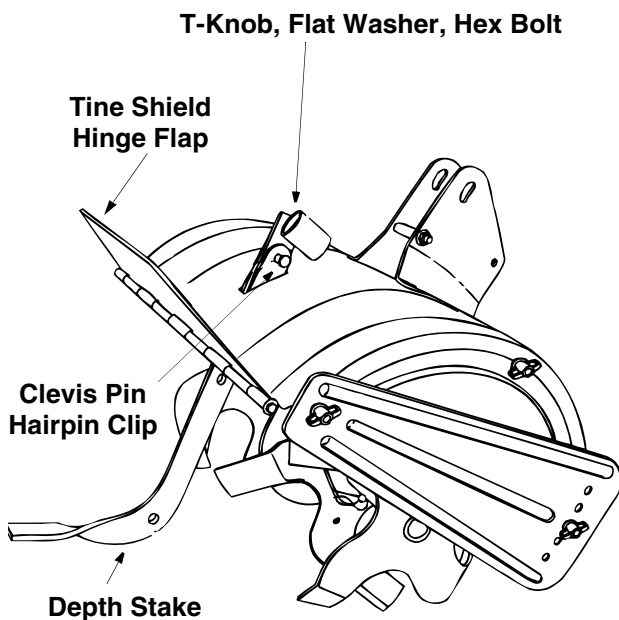

Figure 1
- Unthread the "T" knob from the top of the depth stake, and remove the flat washer and hex bolt. Remove the hairpin clip from the clevis pin. See Figure 1.
- Raise the tine shield hinge flap assembly. Insert the depth stake assembly in the slot (under the tine shield) and up through the tine shield assembly as shown in Figure 1.
- Insert hex bolt into the top hole of the depth stake assembly. Place flat washer on the hex bolt and thread "T" knob onto the hex bolt. See Figure 1. Tighten securely.